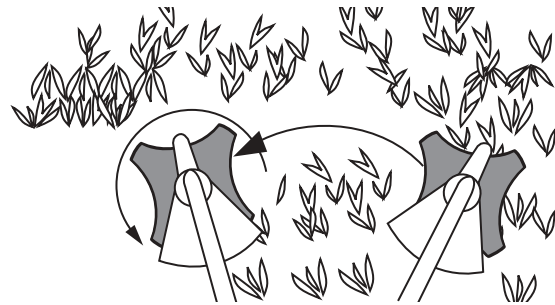

FIGURE 23
- Swing the unit into material to be cut from your right to your left, Figure 23.